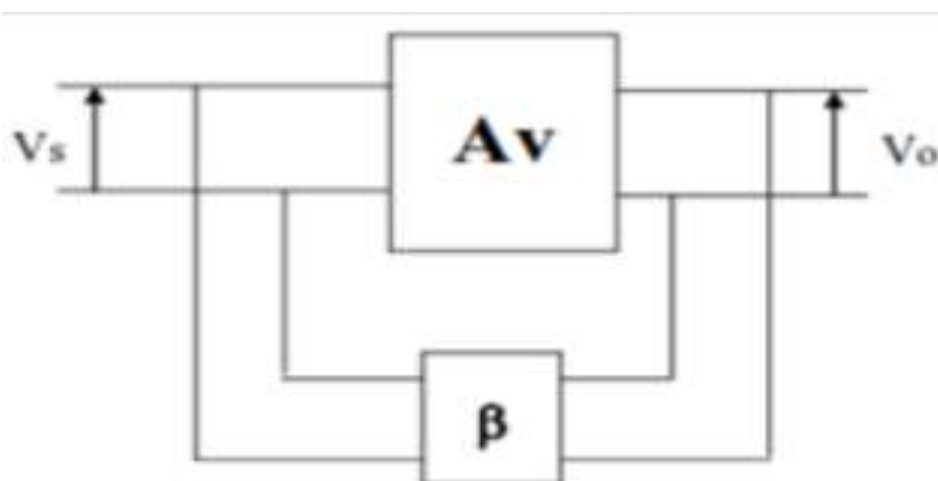

Fig. 2.2 Block diagram of Current shunt feedback amplifier
- II. Connections are made as per circuit diagram Fig. 2.2